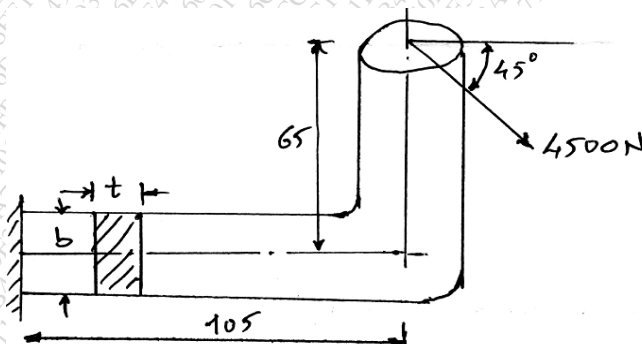

Figure 1.
- b) A mid steel bracket as shown in figure 1 is subjected to pull of 4500N acting at 45° to horizontal axis. The bracket has rectangular section whose depth is twice the thickness. Find the cross-sectional dimensions of bracket if the permissible stress in material of bracket is limited to 46 MPa. 09